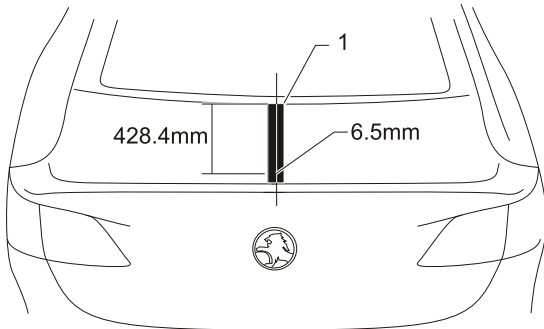

FIGURE 3
6. Drill out the hole to 6.5mm. Refer to figure 3.